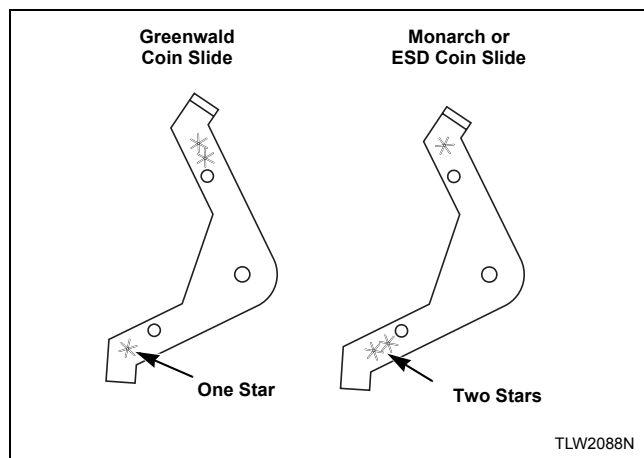

Figure 26
2. If installing a Greenwald coin slide, position extension lever (to be installed on extension bracket) with arm that has one star facing down. Refer to *Figure 26*.
3. If installing a Monarch or ESD coin slide, position lever with arm that has two stars facing down. Refer to *Figure 26*.